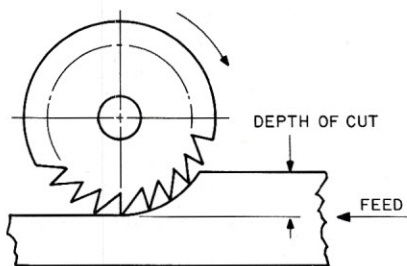

Figure 4. Peripheral down milling.
**Down Milling.** The operation of a milling cutter such that it rotates in the direction the material is being fed. Down milling forces the part into the table. (Figure 4.)
**Peripheral Milling.** An operation commonly performed on horizontal milling machines in which the cutting action takes place predominantly at the outer diameter of the cutter. The cutter axis is parallel to the table. The milled surface contour corresponds exactly to the shape of the cutter's teeth. (Figures 4 and 5.)